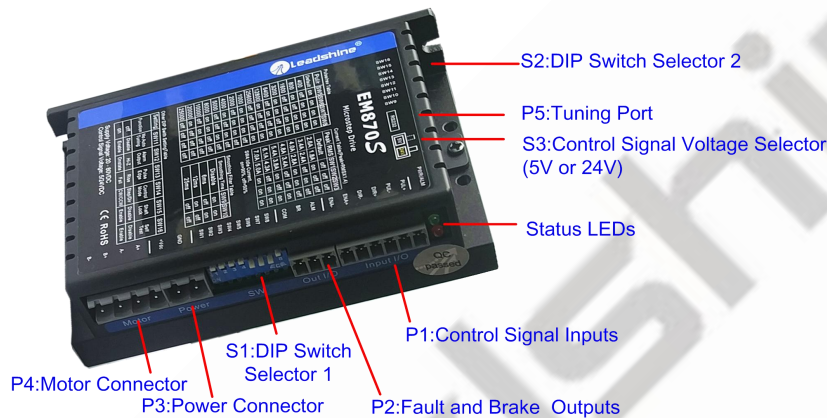

Figure 2 Connectors, DIP switches, and LED locations
DIR- (CCW-)	(6) The activated edge of PUL and DIR is set by DIP Switch SW13 (7) The factory setting of control signal voltage is 24V, must need to set S3 (figure 2) if it is 5V
ENA-	(3) ENA signal requires advance DIR signal minimum 5μs in single pulse mode (4) The default control signal voltage is 24V, to set S3 (figure 2) if it is 5V (5) Enable time to be at least 200ms
The EM870S can accept differential or single-ended control signals (pulse, direction, and enable) in open-collector or PNP connection through the P1 connector (figure 2). It is recommend to add an EMI line filter between the power supply and the drive to increase noise immunity for the drive in interference environments.
The first 8-bit is located on the side (DIP switch selector 1 in Figure 2) and used to configure settings of micro step resolution, output current, and motor standstill current as shown below, the factory setting of SW1-SW8 is **OFF, OFF, OFF, OFF, OFF, OFF, ON, ON**.
The second 8-bit DIP switch is located on the top (DIP switch selector 2 in figure 2), and used to configure settings of control command filtering time, motor auto-configuration, fault output impedance, pulse active edge, control mode, lock shaft, and self-test as shown below, the factory setting of SW1-SW8 is **OFF, OFF, OFF, ON, ON, OFF, OFF, OFF**.
The Third 1-bit selector is located on the top (DIP switch selector 3 in figure 2), used to configure the voltage of control signals. For the safety of optically coupled, the factory setting is 24V, which no need to connect 2K resistors like the old drives, making it easier to use. When the voltage of the control signal is 5V, the S3 must be set to 5V, otherwise, the motor won't work.